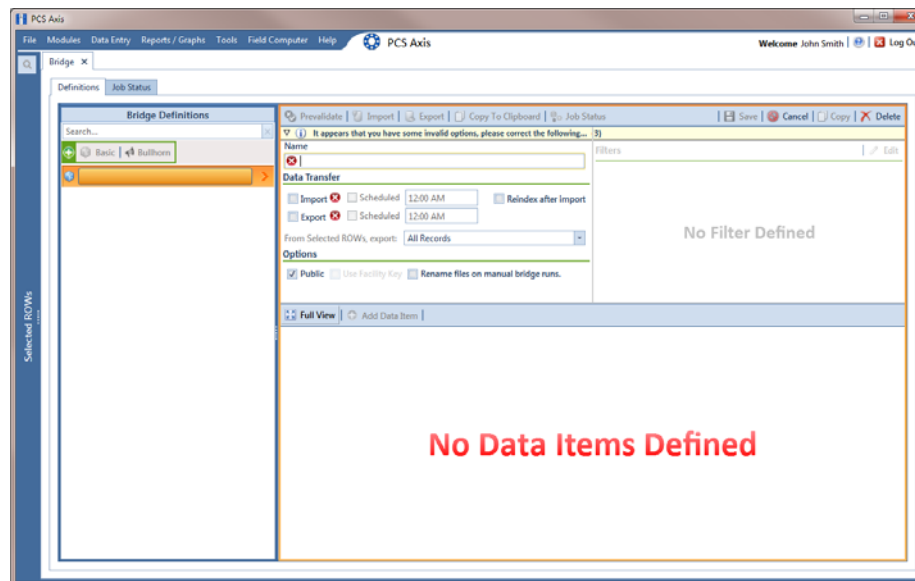

Figure 10-49. Basic Definition Panel
- 2 Click **Tools > Bridge** to open the *Bridge* window. Then click  **Basic** to open the basic definition panel (Figure 10-49).
- 3 Type a unique name for the Bridge definition in the **Name** field (Figure 10-49, page 504).